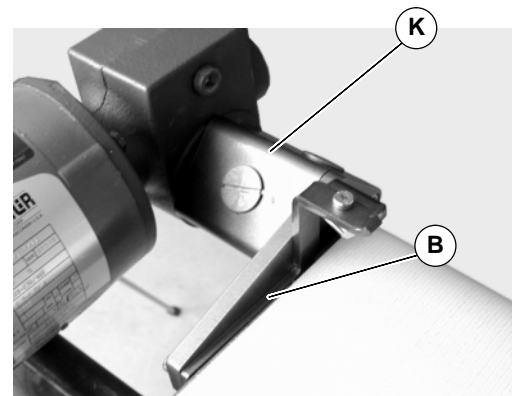

Figure 12
5. Install the gearmotor mounting package (K of Figure 12) using the end stop bracket (B) in place of the mount spacer. See your drive mount accessory manual for additional instructions.